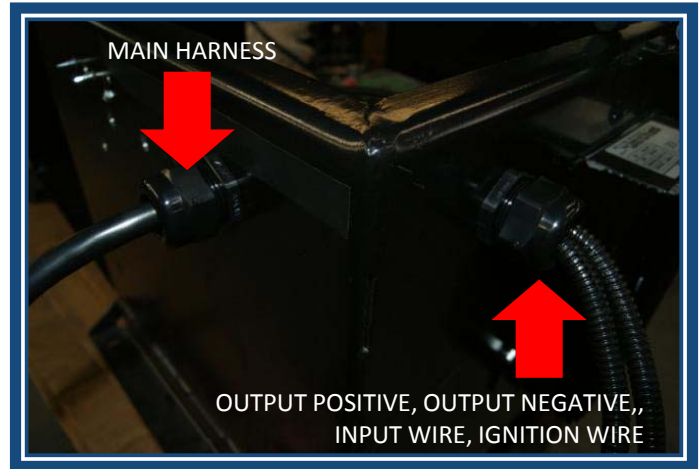

Figure 4
**Step 4:** Route the main harness into the liftgate battery box through the hole in the side of the battery box. **All wires routed through the battery box should be protected with a rubber grommet or dome nut.** (See Figure 4)